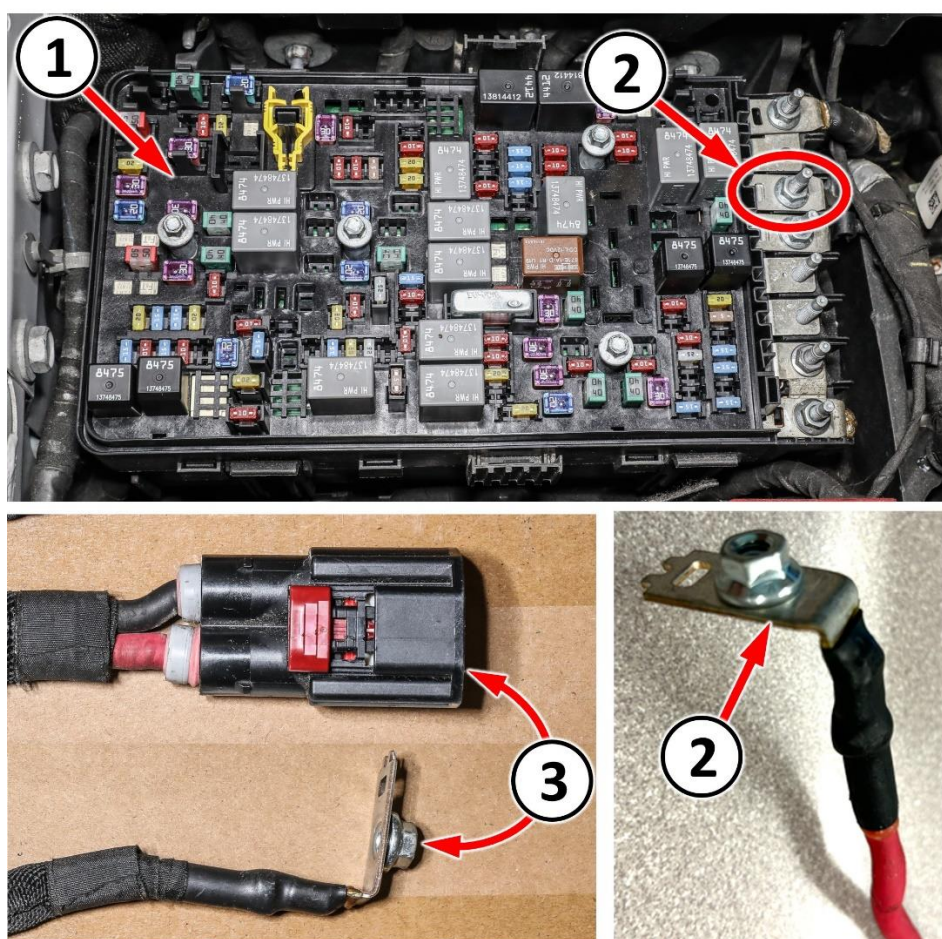

Figure A11 – EHPS Power Supply Eyelet D6630J in PDC
35. Locate the EHPS power supply eyelet D6630J on post #6 and remove eyelet off or the stud (Figure A11).
36. Verify continuity with multimeter between D6630J eyelet and D2704A connector cavity 2 red wire. Also verify the EHPS power circuit is isolated from the vehicle power circuit (Figure A11). **NOTE: If a continuity reading is still present between the EHPS power circuit wire and other vehicle power circuits, the wrong wire has been selected.**